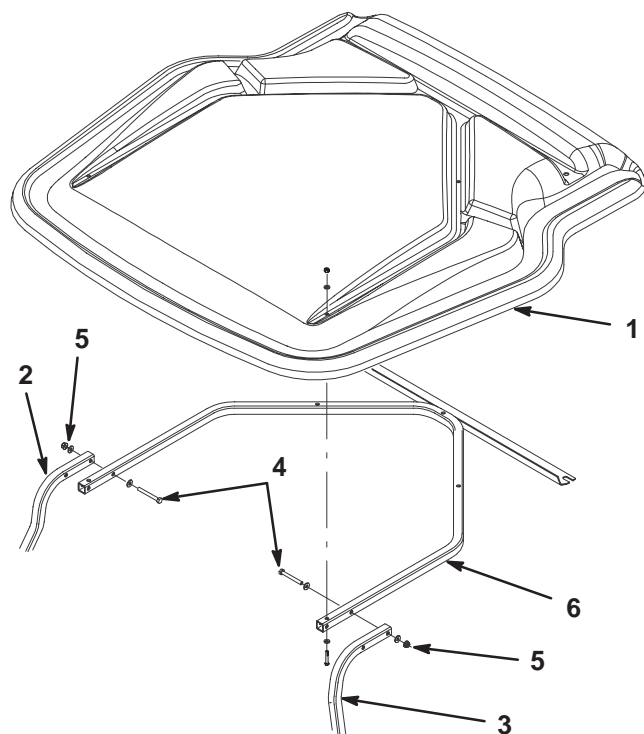

Figure 2
6. Loosely attach the canopy to the front supports using 4 long screws (5/16 x 2-3/4 in.), 8 flat washers (5/16 in.), and 4 flange nuts (5/16 in.) (Fig. 2).
Note: The canopy support is already loosely attached to the canopy (Fig. 2).